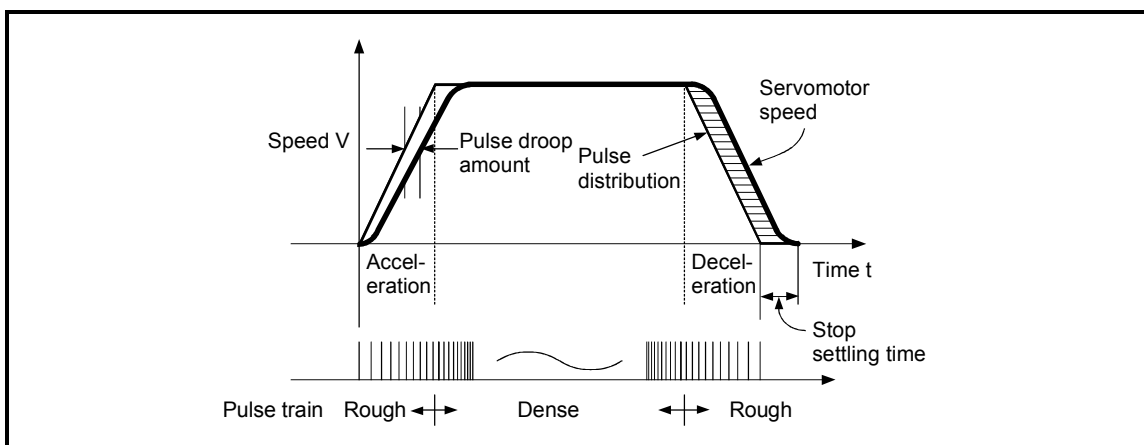

Fig. 1.3 LD75 output pulses
- 1) As shown in Fig. 1.3, the pulse frequency increases as the motor accelerates. The pulses are sparse when the motor starts and more frequent when the motor speed comes close to the target speed.